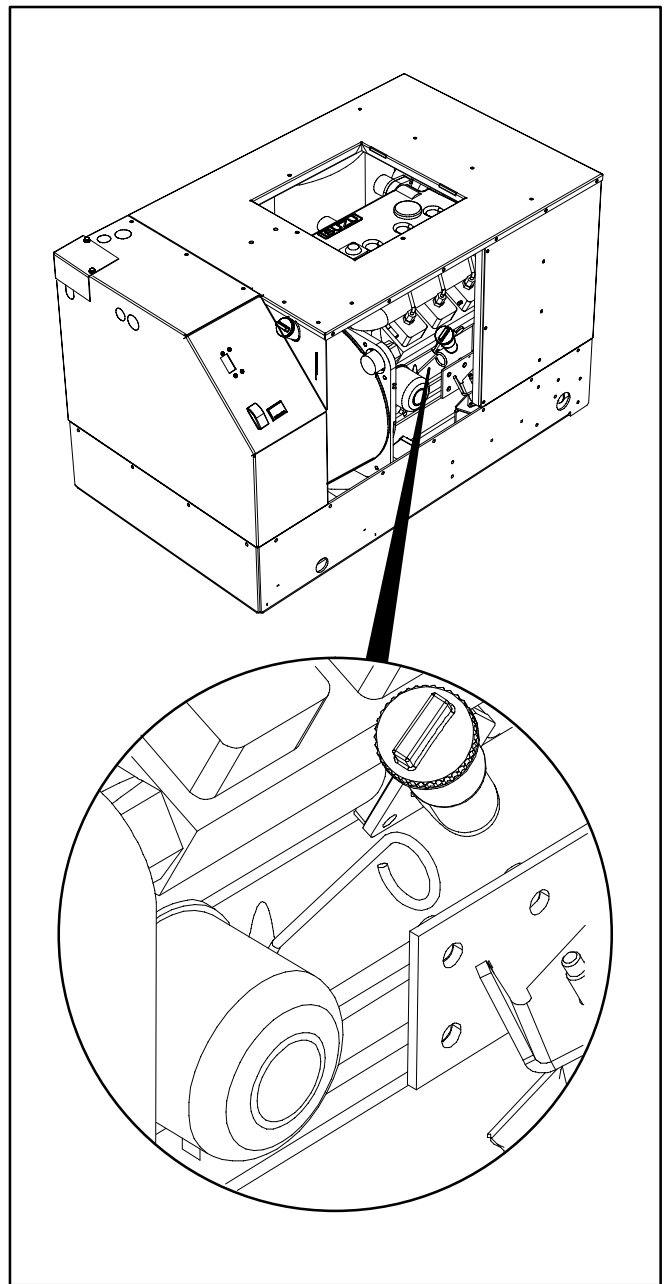

FIGURE 9. CHECKING ENGINE OIL LEVEL
2. Pull out the oil dip stick, wipe it clean, reinsert it and pull it out again to check the oil level (Figure 9).